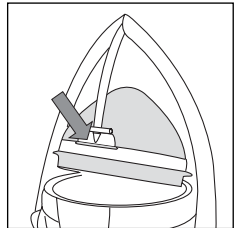

fig.2
3. Insert the cover into the lever ring and push as far as it will go, making sure the tab on the ring fits into the hole in the cover (fig. 2).